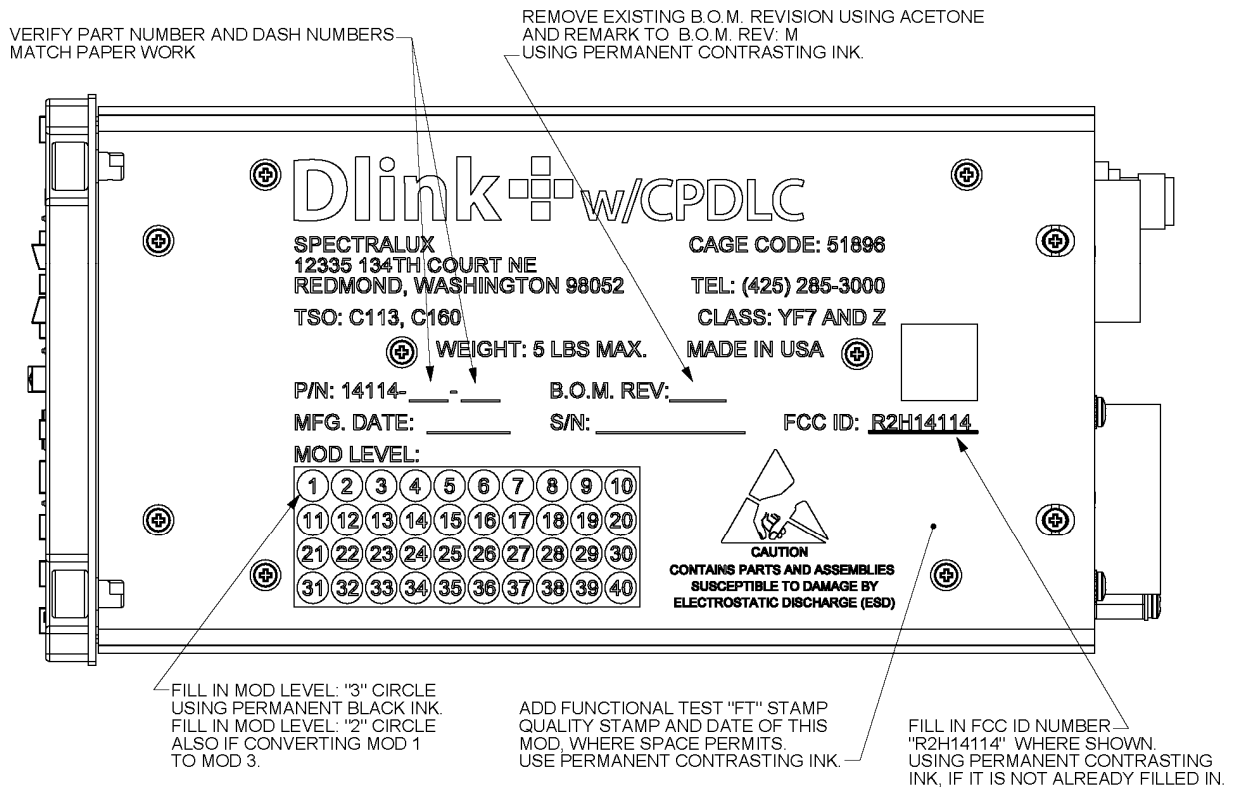

Figure 1. Label Marking
- (1) If all Conversion Results are PASS or NA , mark the unit label according to **Figure 1. Label Marking**.
- (2) Complete and archive automated test results (Spectralux Repair Station only) and Conversion Results worksheet from **5 WORKSHEET**.
- (3) Unit may be placed in service if all results on the Conversion Results worksheet are PASS, YES, or NA.
- (4) END Return to Service.